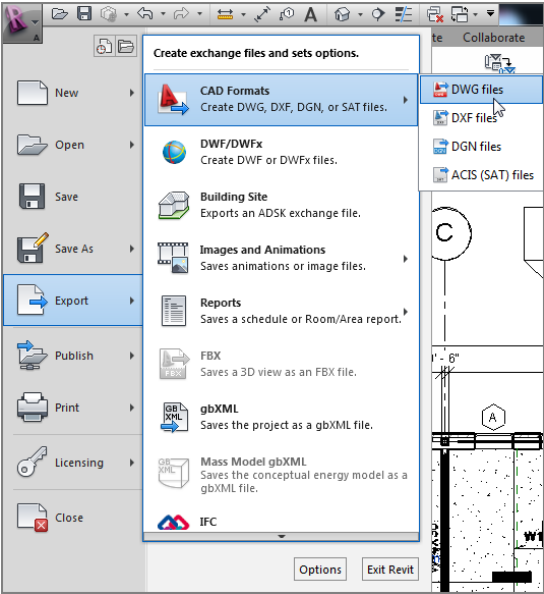

FIGURE 20.23: Exporting the model to CAD
2. Click the Application button, and select **Export > CAD Formats > DWG Files**, as shown in Figure 20.23.